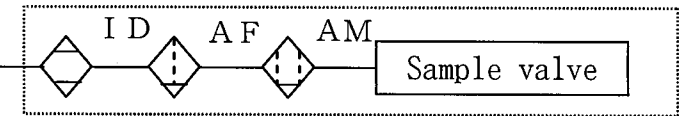

Fig.1
- Lubrication : Non-lubricated [Fig.1]